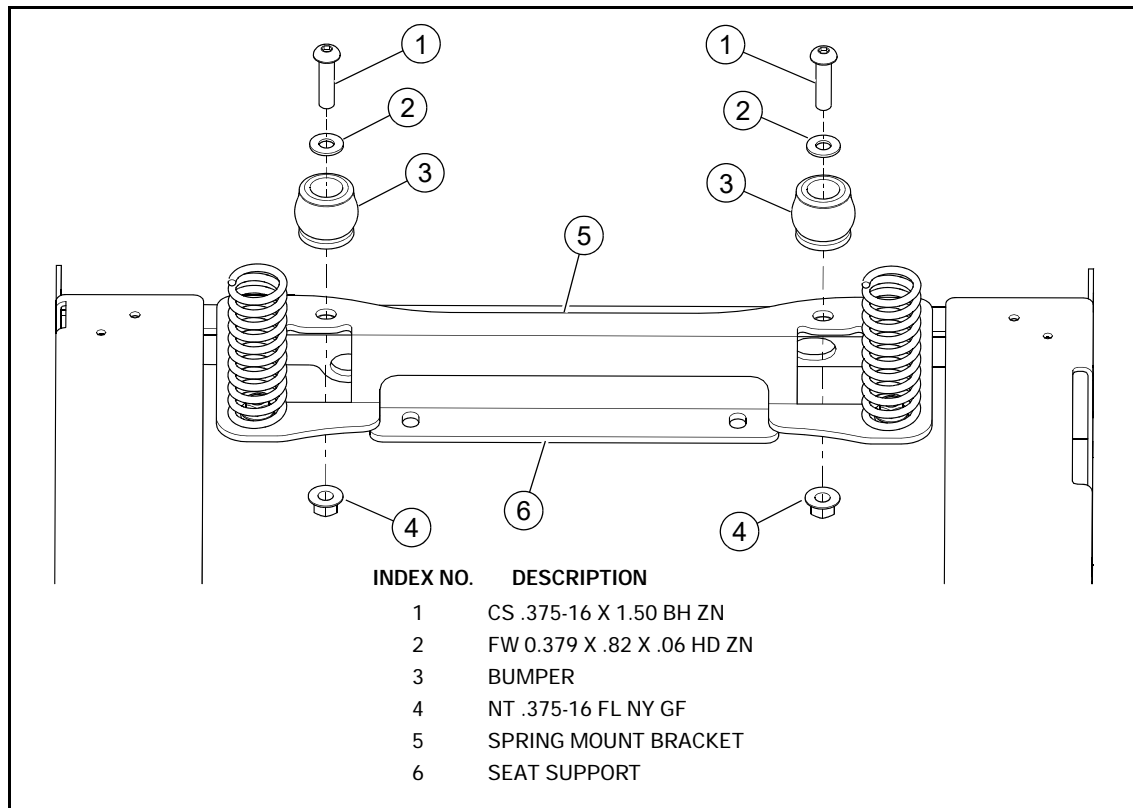

FIG. 4
7. Attach the spring mount bracket and bumpers to the seat support using the hardware supplied with the kit. Torque the nuts to 30 ft-lbs (40 N•m). FIG. 4